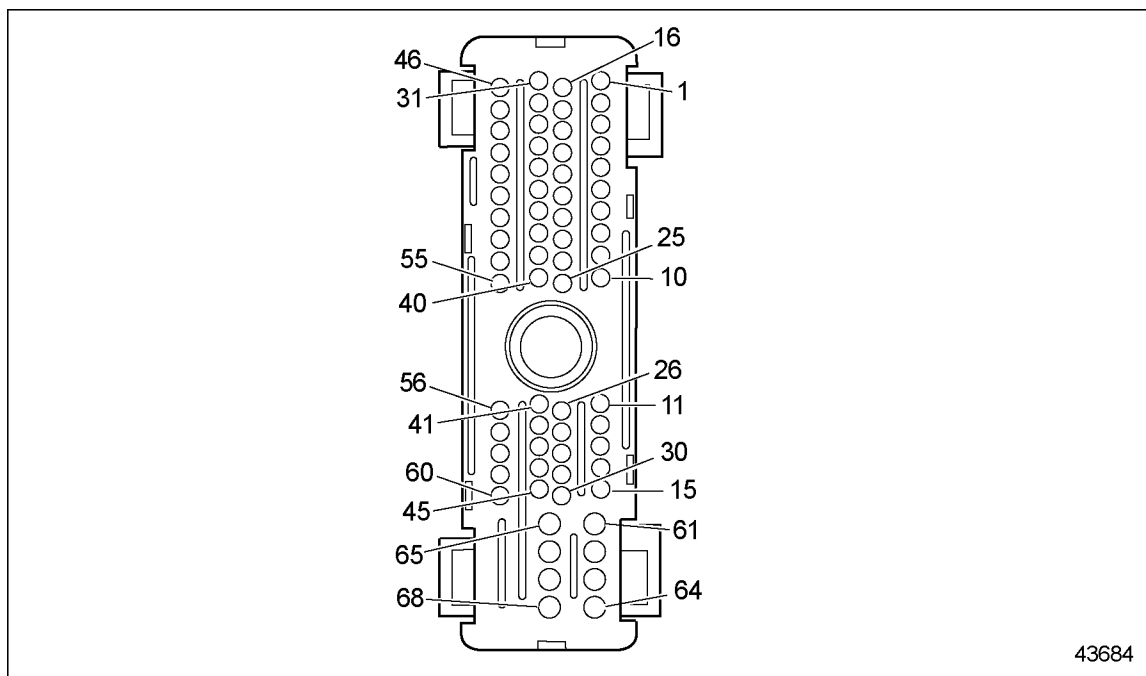

Figure 24-3 ECM/ECM/ECU Engine Harness Connector
3. Measure resistance between sockets E-5 and E-15 on the Engine Harness connector. See Figure 24-3.